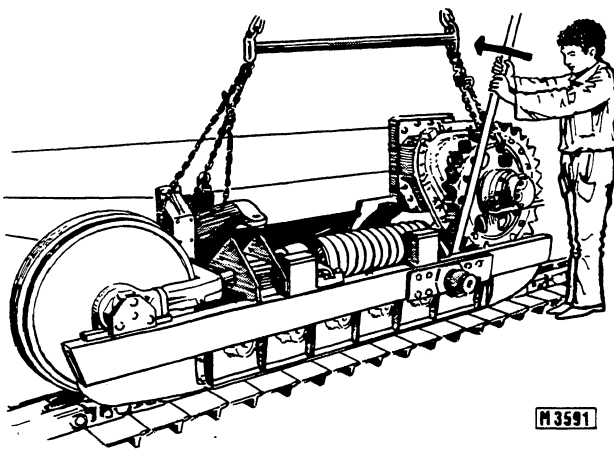

Fig. 28 - Removal of a track frame from the machine.
- Disconnect the complete frame as shown in Fig. 28.